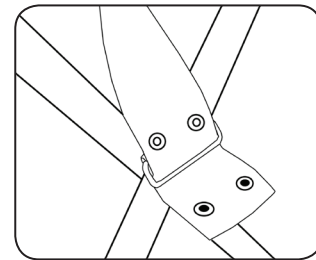
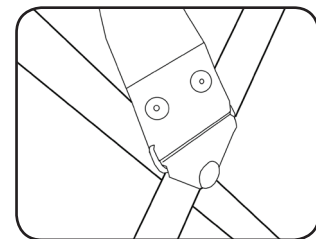

Fig. 3
Fig. 4
2. Insert end of replacement strap through strap ring with buttons facing outward (Fig. 3). Snap together and test that all snaps are engaged by pulling on the strap at the buckle (Fig. 4).